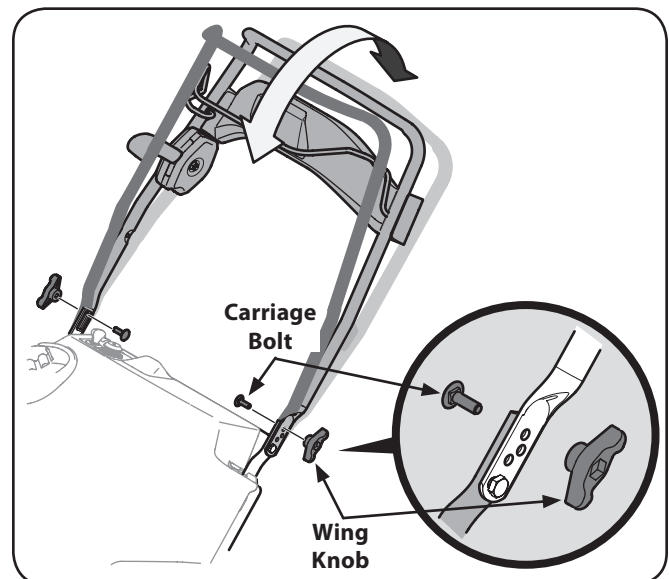

Figure 3-3
3. The handle can be set in three different position. Place the handle in the desired position and then install wing knobs and carriage bolts in the appropriate hole and secure the handle. See Fig. 3-3.